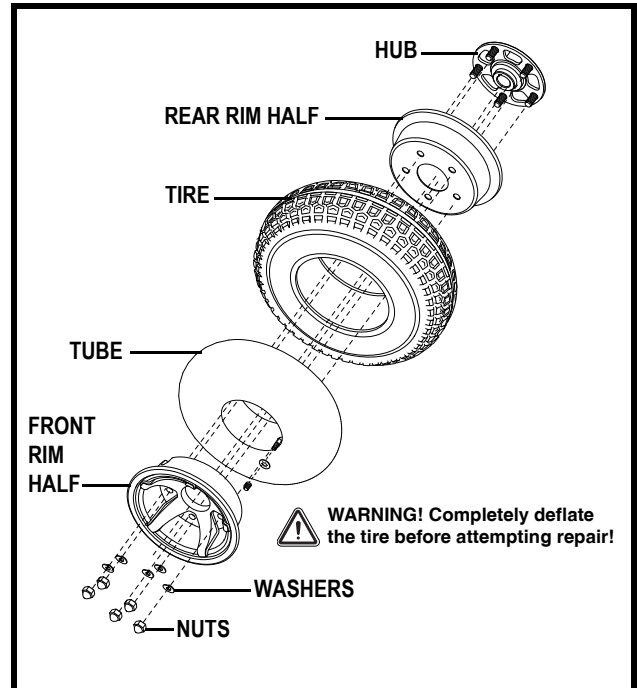

Figure 26. Drive Wheel Assembly
6. Remove the nuts and washers and separate the rim halves. See figure 26.